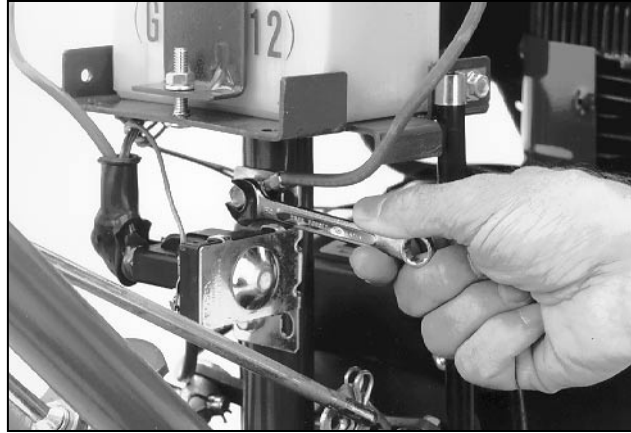

Figure 2-20: Check tightness of upper mounting screw.
4. Check the tightness of the upper mounting screw that secures the negative cable and starter solenoid to the battery post. See Figure 2-20. Scrape away any paint between the cable and the screw as the paint can prevent a good electrical ground.